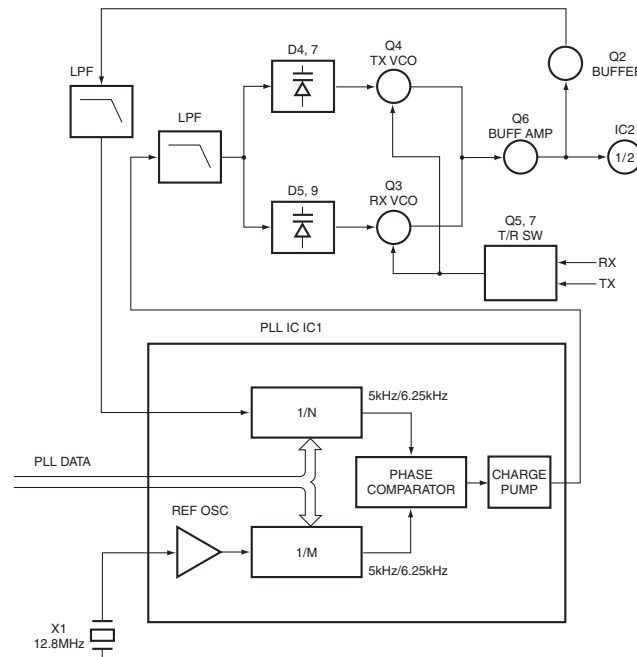

Fig. 5 PLL circuit / 图 5 PLL 电路
A 12.8MHz reference oscillator signal is divided at IC1 by a fixed counter to produce an oscillator (VCO) output signal which is buffer amplified by Q2 then divided in IC1 by a programmable counter. The divided signal is compared in phase with the 5 or 6.25kHz reference signal from the phase comparator in IC1. The output signal from the phase comparator is filtered through a low-pass filter and passed to the VCO to control the oscillator frequency. (See Fig. 5)
12.8MHz 的参考振荡信号在 IC1 中被一个固定计数器分频。振荡器 (VCO) 的输出信号由 Q2 缓冲放大，然后在 IC1 中被一个可编程双模块计数器分频。分频的信号在 IC1 的相位比较器中进行比较。生成的信号通过一个低通滤波器滤波后传送到 VCO 控制振荡器频率。(见图 5)